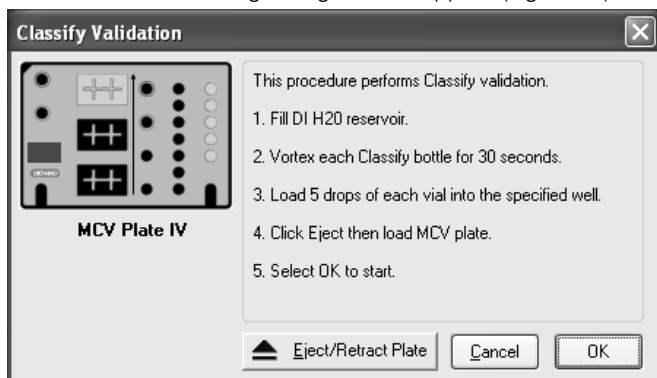

Fig. 10. Classify validation dialog.
6. Enter the User name and select control number. Select **Classify Validation**. Select OK. The following dialog box will appear (Figure 10):